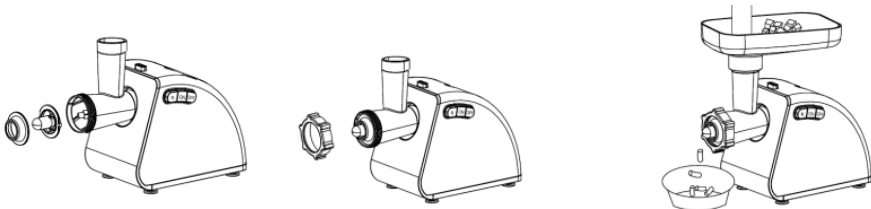

Fig. 4
1. Assemble the set according to figure 4.
2. Assemble the set according to figure 4.
3. Put the previously prepared mixture to be ground into grinding chamber, shoving them with the pusher (5).
4. Form Kebbe as illustrated on figure 4 and deep fry.